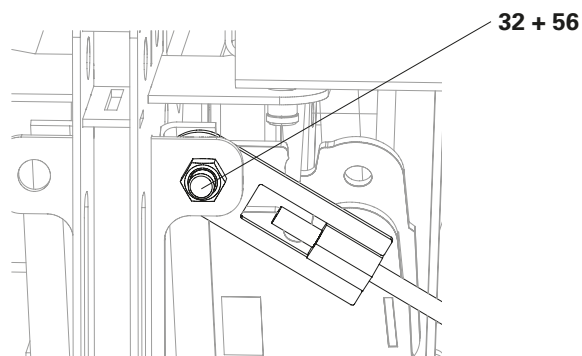

Fig. C7.04b
5. Attach clamping unit with H-Load Tie Yoke DW15 (**39**) to the support nodes (**6**) using bolt ISO 4017 M20 x 50 (**32**) and nut ISO 4032 M20 (**56**). (Fig. C7.04b)